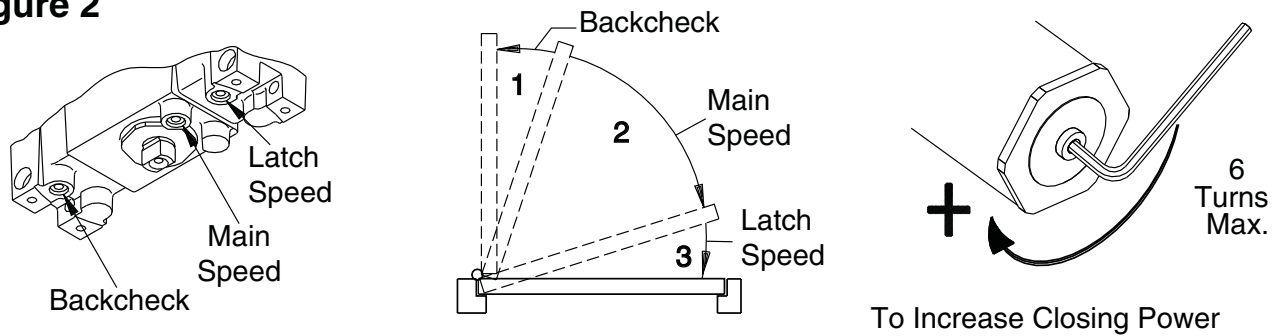

Figure 3
1a Closer Information Closer is handed at the factory. The hand of the closer must match the hand of the door (see the door handing diagram below).	1d Wiring Connections Make the wiring connections at this time. Connect the two black wires to the input voltage (polarity is not important). The green wire MUST be connected to an earth ground (see Figures 3 & 4 on page 3).
1c Before beginning this step, determine which type of wiring option will be used, and follow the corresponding instructions: Concealed Wiring: see Figure 3 on page 3. a. Prepare the frame per the proper template on page 4. Be sure all the holes are dimensioned correctly before drilling and tapping. b. Assemble the conduit connector provided to the flexible conduit, then attach to the hole in the mounting plate. c. Secure the mounting plate to the frame with the screws provided. Surface Wiring: see Figure 4 on page 3. ① NOTE: Remove the knockout in the top of the cover. a. Prepare the frame per the proper template on page 4. Be sure all the holes are dimensioned correctly before drilling and tapping. b. Secure the mounting plate to the frame with the screws provided. c. Attach the surface run 1/2" EMT conduit to the hole in the bracket on the mounting plate. Be sure the conduit is securely attached to the bracket.	1f Track Roller Insert the track roller into the track, and end caps into both ends of the track. Place track plugs in the track where needed. Using the fasteners provided, mount the track on the door per the template on page 4.